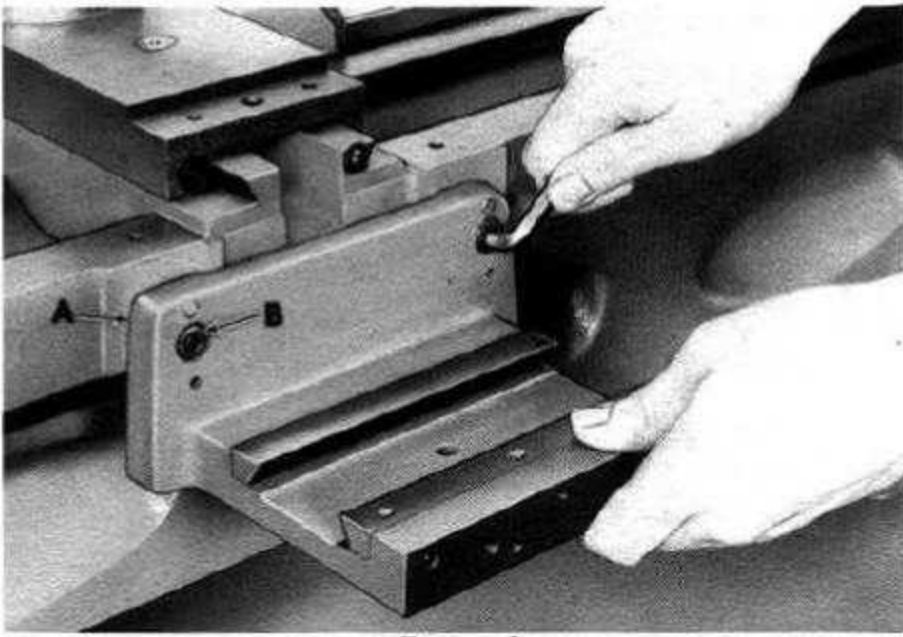

Figure 3
7. Mount support bracket (A, fig. 3) to rear of carriage with screws (B) furnished. Do not tighten the screws.